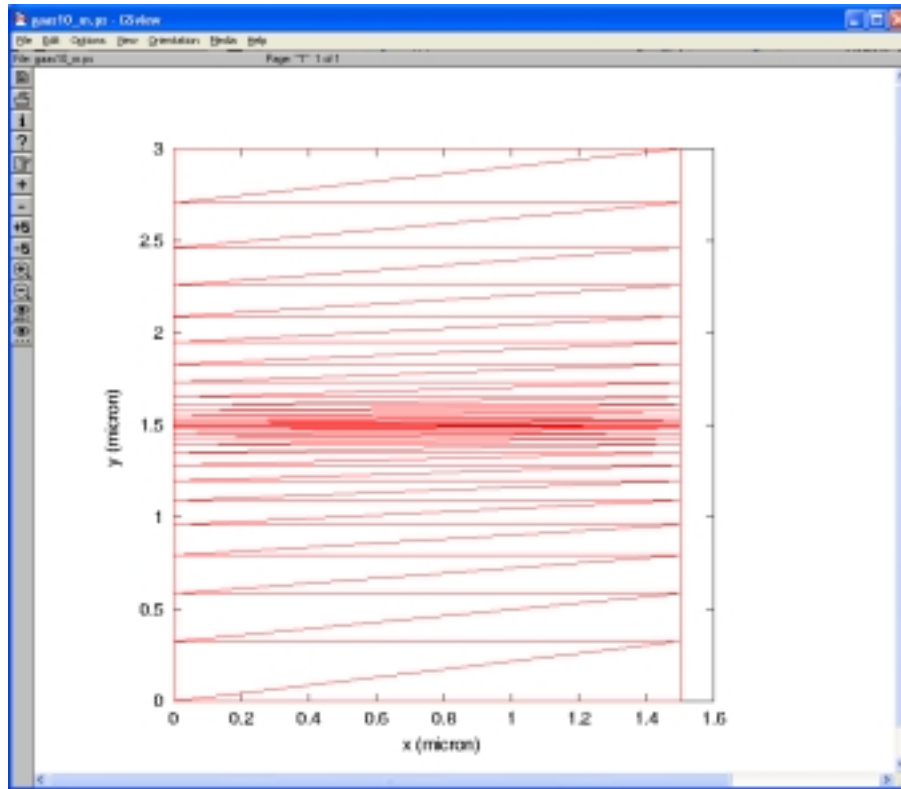

Fig. 4 Mesh plot.
- (3) From the device geometry file (.geo), we now generate the mesh file (.msh) later needed by the main simulator. Right-click on “gaas10.geo” and select “Generate Mesh”. To view the mesh, right-click on “gaas10.mplt” and select “View Mesh (mplt)”. If GhostView is installed on your computer (available at www.crosslight.com), you will see a simple zigzag mesh for our 1D example structure (Fig. 4). Close the window. The plot will be saved as gaas10_m.ps and you can display it again by selecting it from the “Output” file listing. Alternative plot options can be selected inside gaas10.mplt (right window), by replacing “plot_device=postscript” with “plot_device=window”, for example, in order to use the built-in display.
Plot the mesh by right-clicking on “mylaser.mplt” and selecting “View Mesh”. Compared to Fig. 4, your mesh probably has much less grid points. Close the GSview window.